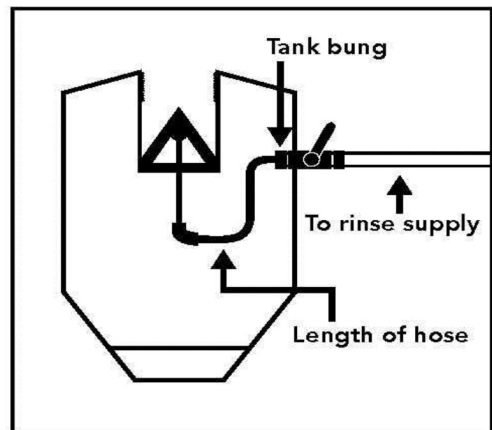

Fig. 4
8. Measure distance from bottom of Chem-Blade pipe nipple to location of tank bung for hose length. (Fig. 4)